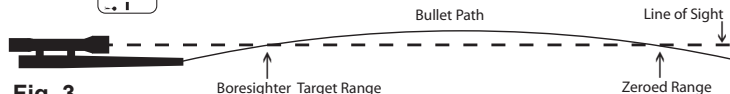

Fig. 3
9. Once you enter the "zeroed" range the program will calculate the boresighting target range that you should use to align the center of your crosshair with the laser spot (Fig. 2) This range will be closer than the "zeroed" range because it is the point where the bullet crosses over the line of sight and is the same point that the bullet will impact at the selected range (Fig. 3)